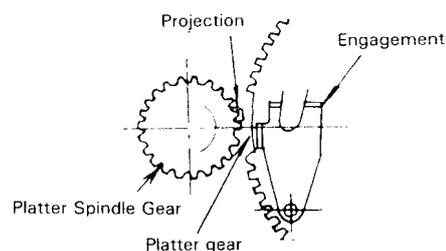

Fig. 1
- During playing, the notch of the main gear position relative to the turntable spindle gear is as shown in Fig. 1. As the projection is away from the engagement, the main gear does not rotate even though the turntable.